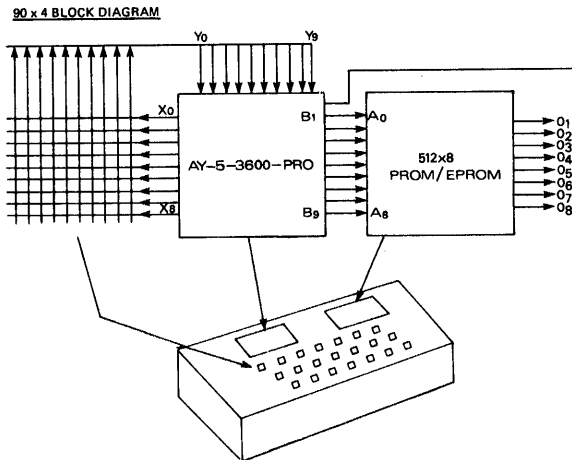

Fig.9 90 KEY 4 MODE KEYBOARD APPLICATION
Expansion to a 90 key 4 mode operation (see Fig. 9) is identical to the 64 key 4 mode except: the 90 key 4 mode version utilizes the full complement of addresses X0 Y0 thru X6 Y9 (90 keys). The 8-bit binary code (B2-B9) previously produced to address the 256 \times 8 PROM/EPROM is now expanded to a 9-bit binary code (B1-B9) for addressing to a 512 \times 8 PROM/EPROM. With expansion to a 90 key 4 mode application outputs B1-B3 now serve as the variable mode identification.